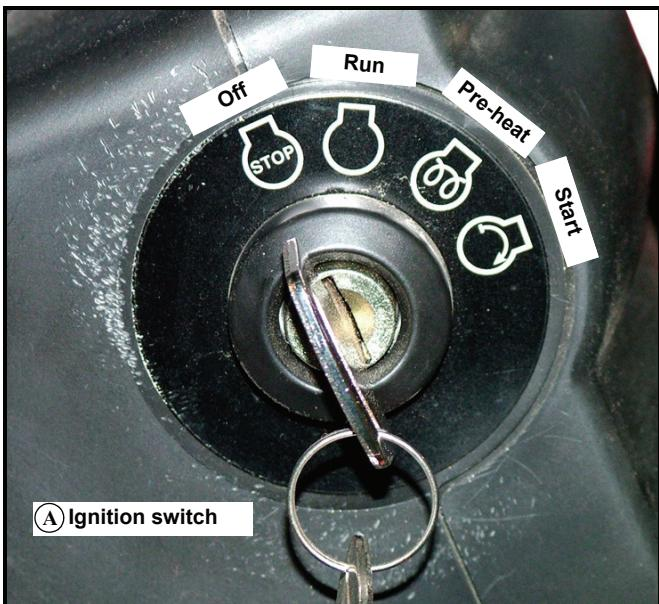

Figure 3-2
A. **Ignition switch (Figure 3-2)** — A four position switch: off, run, pre-heat and start. With key inserted, rotate it clockwise to "PRE-HEAT" position and the "START" position; release key when engine starts, and switch will automatically return to the "RUN" position.